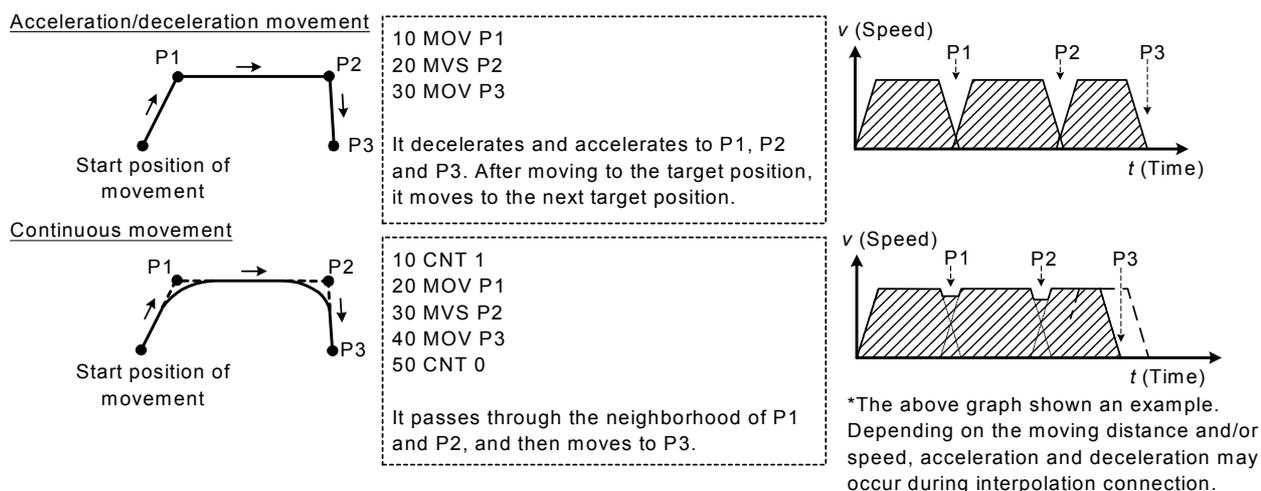

Fig.4-7:Acceleration/deceleration movement and continuous movement
- (1) The interpolation (40 line to 80 line of the example) surrounded by CNT 1 - CNT 0 is set as the target of continuous action.
- (2) The system default value is CNT 0 (Acceleration/deceleration movement).
- (3) If values 1 and 2 are omitted, the connection with the next path segment is started from the time the deceleration is started.
- (4) As shown in Fig. 4-7, in the acceleration and deceleration operating mode, the speed is reduced in front of the target position. After moving to the target position, the speed for moving to the next target position starts to be accelerated. On the other hand, in the continuous operating mode, the speed is reduced in front of the target position, but it does not stop completely. The speed for moving to the next target position starts to be accelerated at that point. Therefore, it does not pass through each target position, but it passes through the neighborhood position.